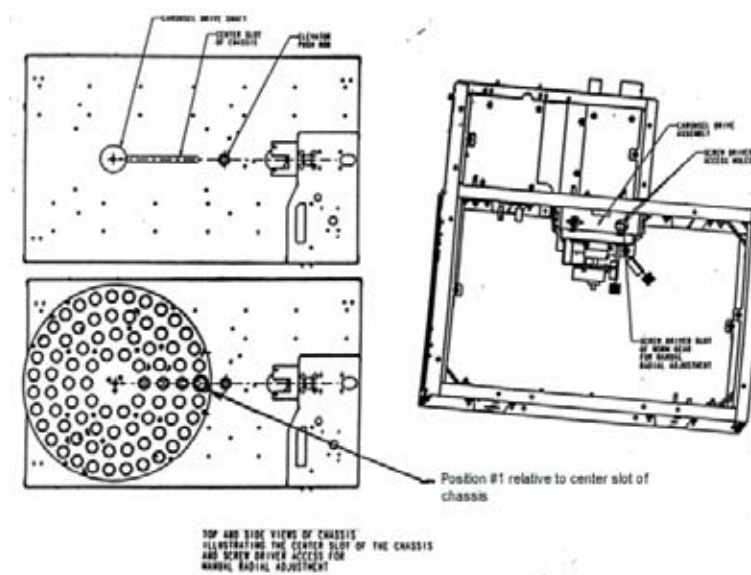

Figure 6-19: Centering with Indexing Slot
5. Using a short or stubby flat blade screwdriver inserted into the machined slot of the worm gear within the carousel drive, manually adjust the carousel radially until position 1 is centered with the center of the indexing slot for the carousel drive on the top of the chassis ($\pm 0.062''$) (0.16cm). See Figure 6-19.